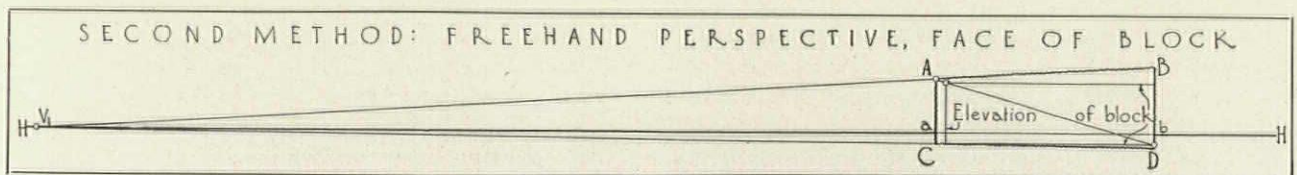

Figure 7—Second method: Freehand Perspective, Face of Block
If one face of the building is vastly more important in your perspective than the other, why not leave the return face off your initial sketch of the block, and start with a view of the principal façade alone, as in Fig. 7?
If your initial sketch shows only one face of the block, you can put in the grade-line of that face without making redundant assumptions; in fact, the layout in Fig. 7 limits but does not fully determine your choice of a station-point, as we shall see presently. Let us take the same building that we used before, and lay out the drawings to construct a perspective based on a sketch of one long face of the basic block.
I. Drawing the Block Perspective (Fig. 7).